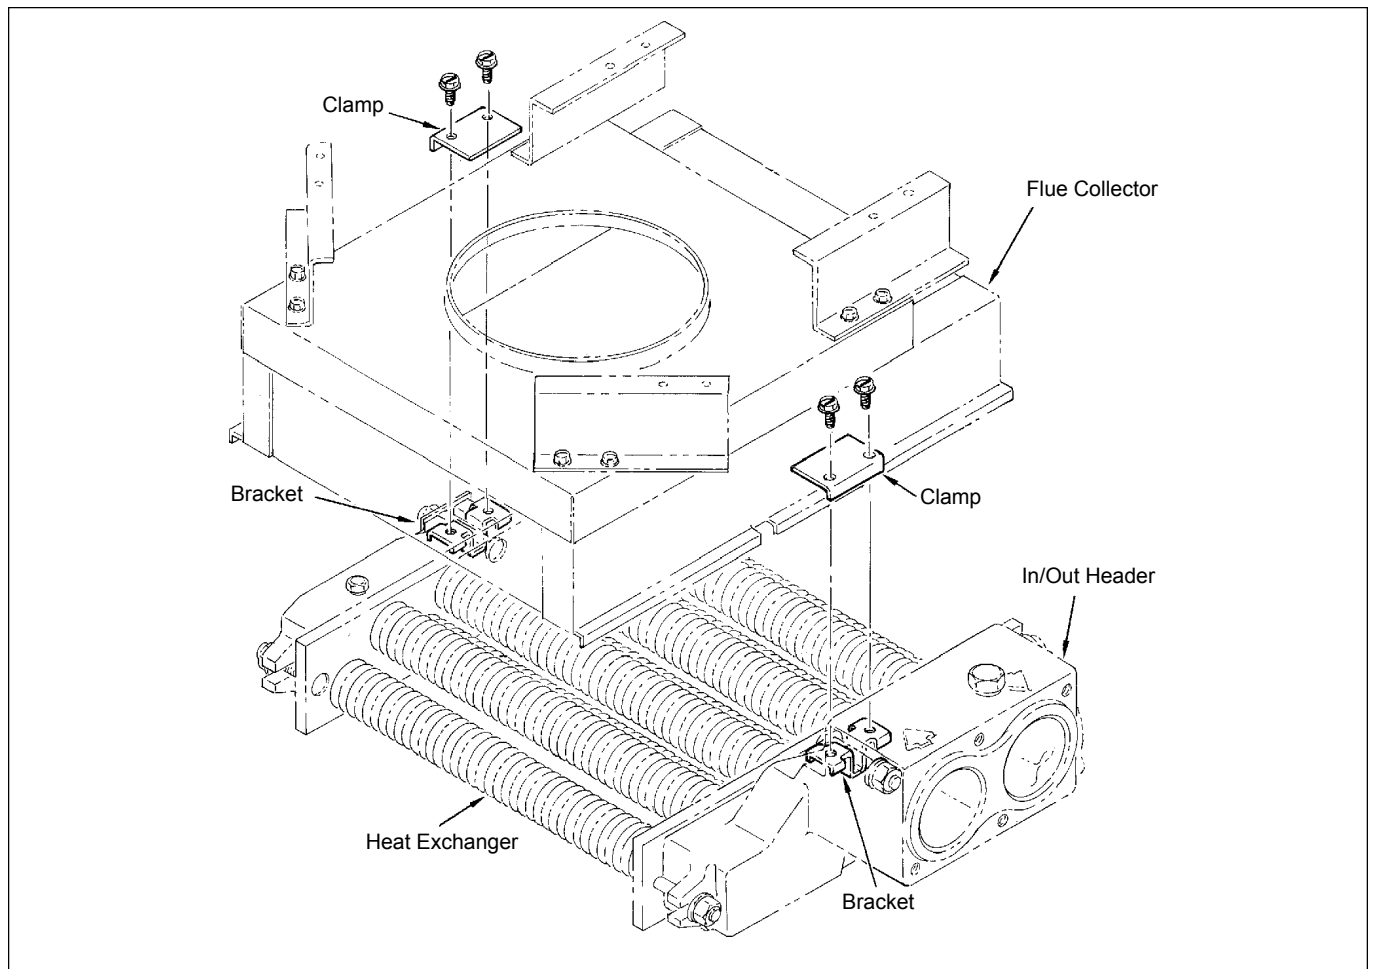

Figure 17. Flue Collector Holddown Clamps.
4. Remove the screws that fastens the flue collector hold-down clamps and remove the clamps (see Figure 17).